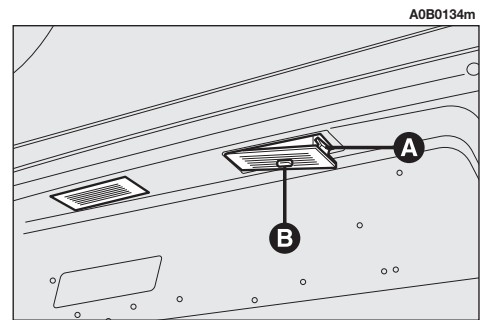

fig. 54
– Remove the number plate light unit using a flat-tipped screwdriver protected by a soft cloth on the catch (**A-fig. 54**).
– Remove the unit (**B-fig. 54**).
– Refit the complete unit (**B-fig. 54**) firstly inserting the catches and then pressing in correspondence with the stopper (**A-fig. 54**).